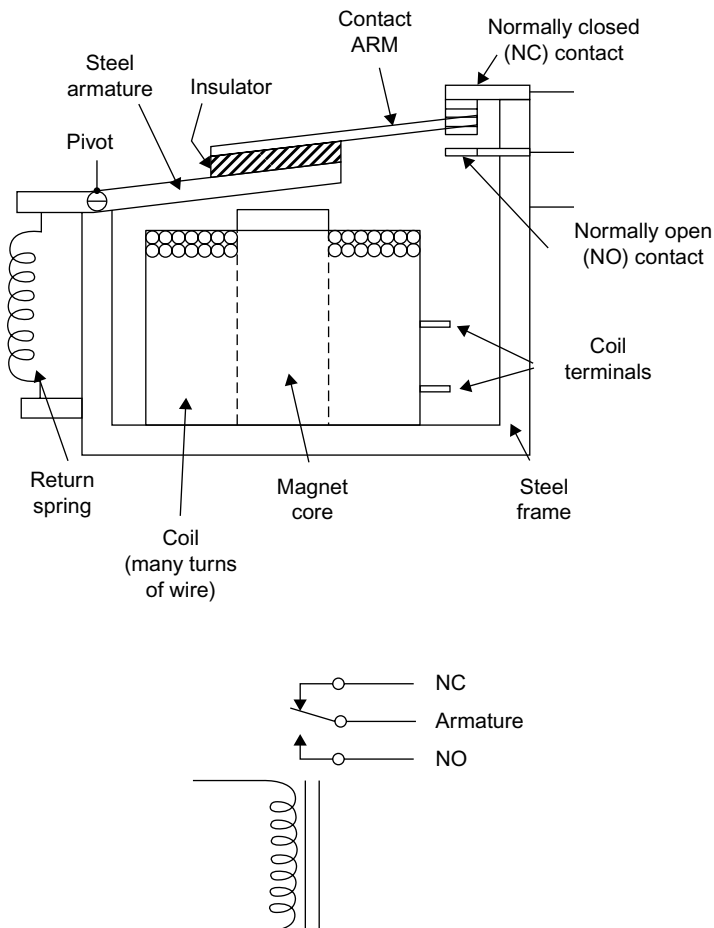

FIGURE 12.13 Cross-sectional view of typical relay showing major components and schematic diagram.
A relay is an electromagnetically operated switch. A typical relay, and its schematic symbol, is illustrated in Figure 12.13. Its main components are a magnetic coil and a set of switching contacts. With no current applied to the coil, the spring keeps the armature pulled down, so that the contact arm makes connection with the upper, normally closed (NC) contact. When current is applied to the coil, a magnetic field is produced. This magnetic field attracts the steel armature, opening the upper contact, and closing the lower, normally open (NO) contact. The contacts form a single-pole, double-throw (SPDT) switch. When power is disconnected from the coil, the magnetic field ceases, and the contacts return to their initial state because of the spring.